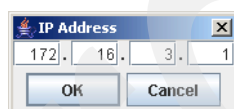

Figure 21-47 SANsurfer - iSCSI portal IP address
- There are currently no targets defined in the target list. Click the green plus sign to add a new target. A dialog opens to specify the IP address of an iSCSI portal. The example here uses the first iSCSI port IP address of the first controller in the DS3300, as shown in Table 21-1 on page 483. This was configured on the DS3000 in 13.2.3, "Configure iSCSI Host Ports" on page 291. Enter the address and click **OK**. See Figure 21-47.